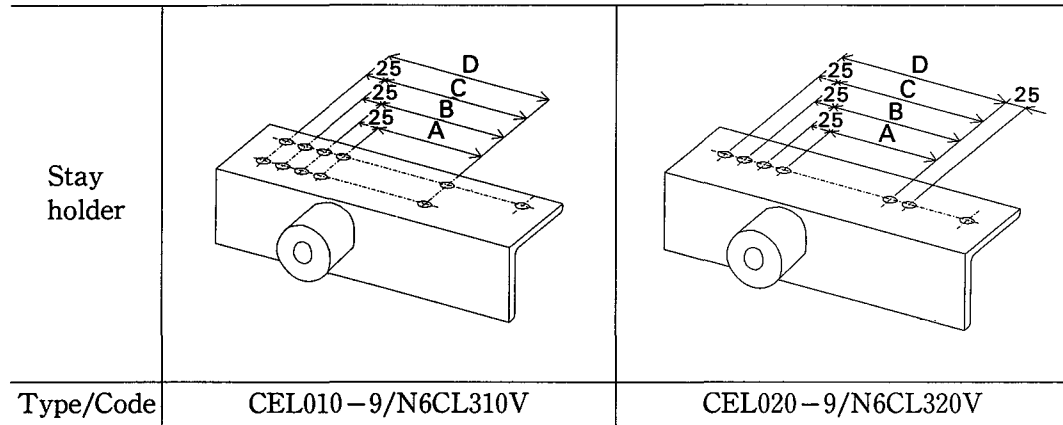

Fig. 9
The stay holder can be used as is. The stay holders are holed as they are to assemble with end carriage according to travel rail width (T) (Refer to Fig. 9). Assemble end carriage frame based on travel rail width determined.